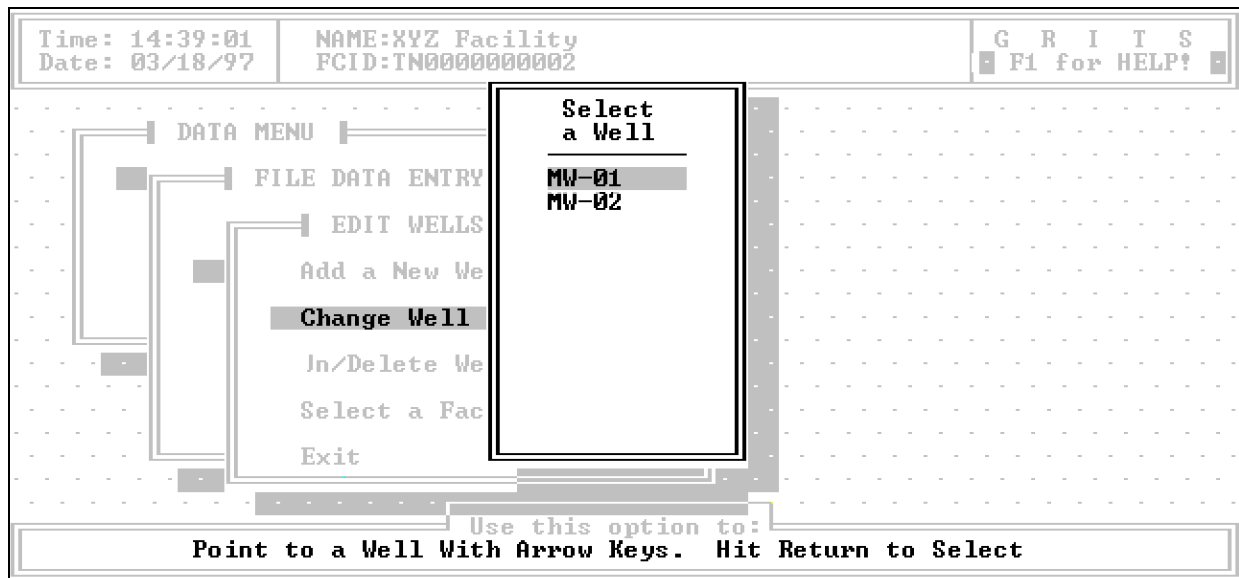

Figure 3-29. Pop-up list of wells for XYZ Landfill.
2. Press the <C> key or use the up and down arrow keys to highlight the Change Well Data option of the EDIT WELLS MENU and press <Enter>. A pop-up list of wells for the currently selected facility appears on your screen as shown in Figure 3-29.